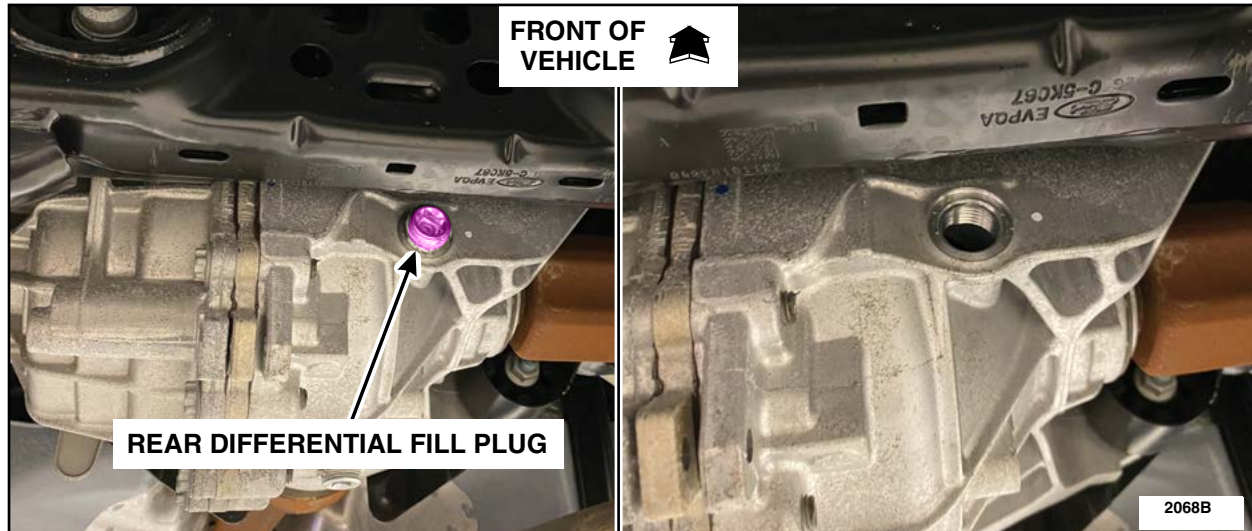

FIGURE 2
5. Clean any dirt, debris and fluid from around the rear differential fill plug, then remove the rear differential fill plug. See Figure 2.